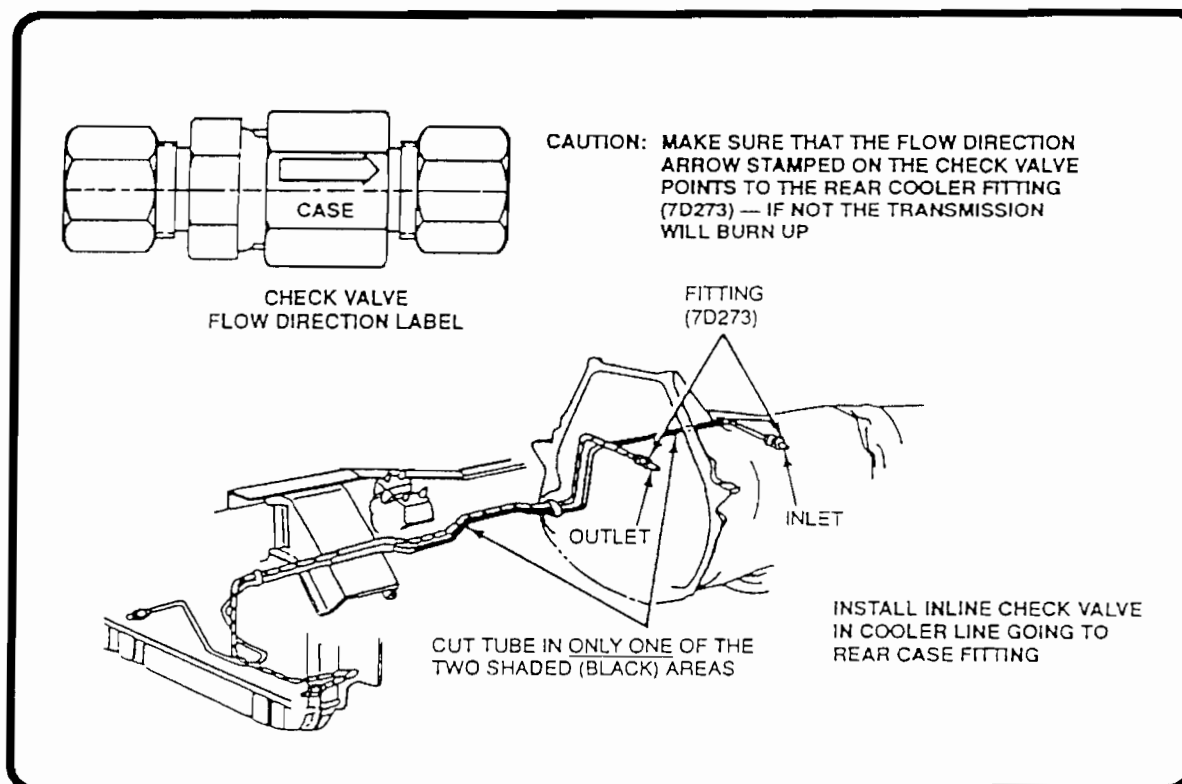

Figure 1
**CORRECTION:** Install an in-line check valve, OEM part number FOTZ-7D174-A, in the "COOLER RETURN LINE" going to the REAR case fitting. (See Figure 1).